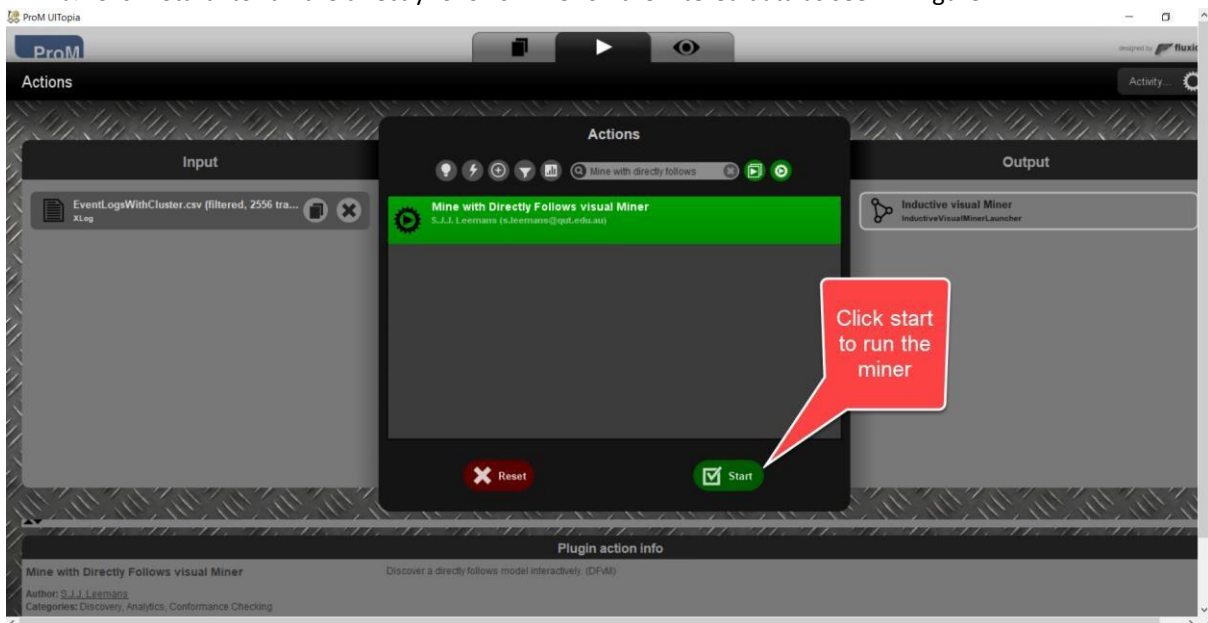

Figure 24 - Image showing how to run the directly follows visual miner.
20. Click “Start” to run the directly follows miner on the filtered data as seen in Figure 24.